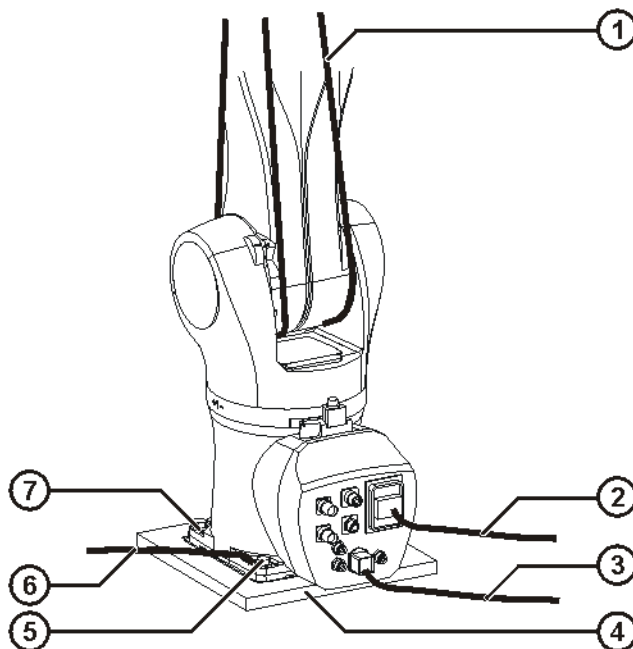

Fig. 11-2: Removing a floor-mounted robot
4. Secure the robot by activating the E-STOP device and then shut down the robot (>>> Fig. 11-2).